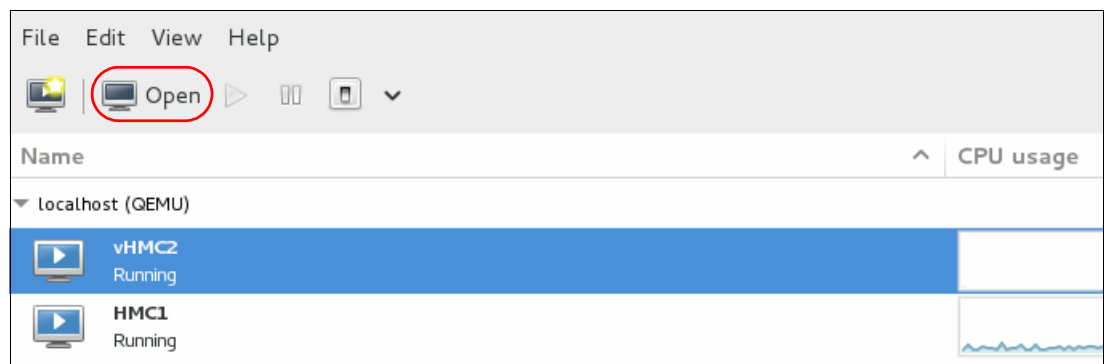

Figure 3-68 Virtual Machine Manager
13. You can now open the console, see the deployment progress from the virtual machine manager, and open the VM console, as shown in Figure 3-68.